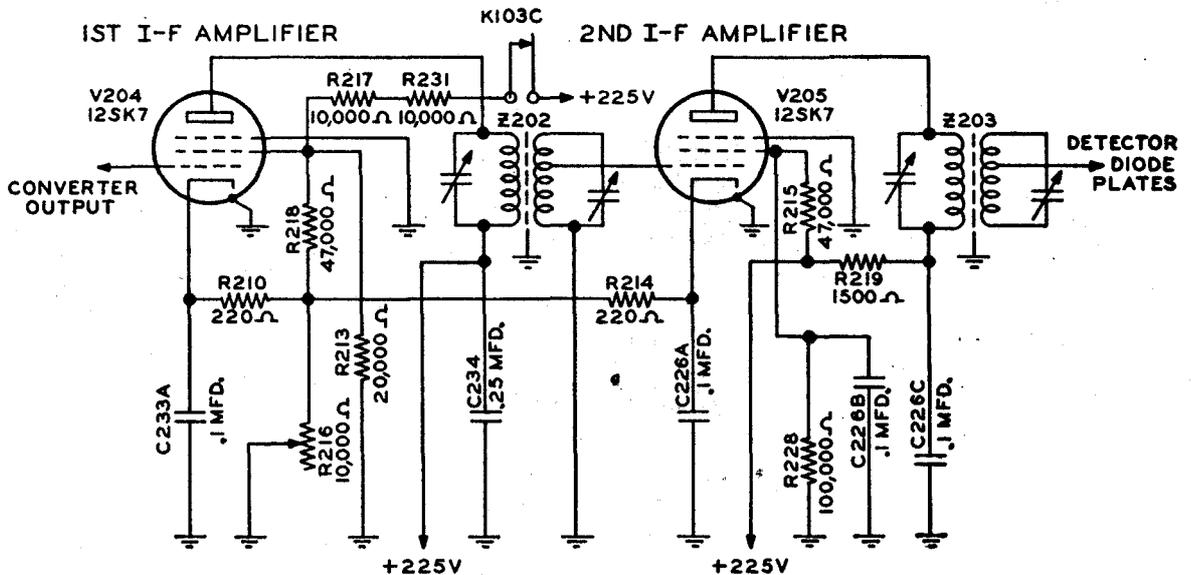

Fig. 8. I-F Amplifier Circuit (Dwg. 500 0137 00A)
2.3.7.1. Refer to Figure 8. Two stages of i-f amplification are employed in the receiver to obtain the desired selectivity and output with a low percentage of distortion. Two Type 12SK7 triple grid amplifier tubes are utilized. The output of the converter is coupled to the grid of the first i-f amplifier, V204, by the i-f transformer, Z201. AVC voltage is applied to the grids of the first i-f amplifier when receiving modulated signals. When CW reception is selected by the operation of the MOD./CW switch, S203, or switch S206 is operated by the R.F. GAIN control, the lower end of the grid resistor, R230, is connected to ground, disabling the AVC circuit. The output of the first i-f amplifier, V204, is coupled to the grid of the second i-f amplifier, V205, by the i-f transformer, Z202. This stage operates as a straight i-f amplifier and no AVC voltage is applied.